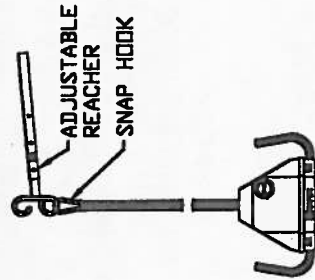

FIGURE 1
(a) When the reacher is required, attach the snap hook on the power unit strap to the closed ring on the reacher (see Fig. 1).
(1) Charge the system daily or when the "Low Battery" indicator on the power unit turns red and is accompanied by an audio signal. The system should be charged immediately after discharge for a minimum of five (5) to six (6) hours.
(2) To charge, place the system on a counter or table in a non-traffic area. Plug the output cordset of the charger to the charger inlet on the system, and make sure the "ON/OFF" switch is in the "ON" position (Refer to Fig.1).